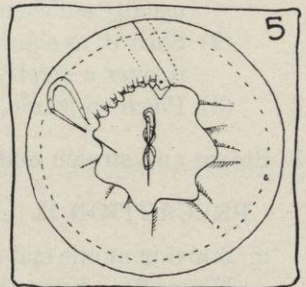

FIG. 5.
- (9) Baste on line of pins for seam.
- (10) With the raw edge of the seam outside, slip basted strip of material over the steel wire in order to see if it is very tight. It should be. You will remember that it was stretched and steamed.
- (11) Show your work to your teacher at this point.
- (12) As soon as your teacher approves of your work, stitch the seam on the line of the basting by machine. Since there is a good deal of strain on such a seam, it always looks better if it is stitched by machine.
- (13) Press seam flat. (Never press velvet.)
- f. Put the material back on the steel wire with the right side out (see Figure 5). Be sure the basting is on the steel wire.
- (1) Thread a coarse needle with double coarse cotton and put a knot in it.
- (2) Run double coarse shirring thread through both cut edges of the material (see Figure 5).
- (3) Pull thread up tight, stick needle into shirring, and twist thread in an eight over the needle. **Do not cut off thread** (see Figure 5).
- (4) Remove basting in edge.
- b. This steamed double facing may be set on a headsize band, thus forming a collapsible brim (see Figures 5, 6, 7, 8 A, B, and C of Job 8, pages 35 and 36). However, this time there are no slashes.